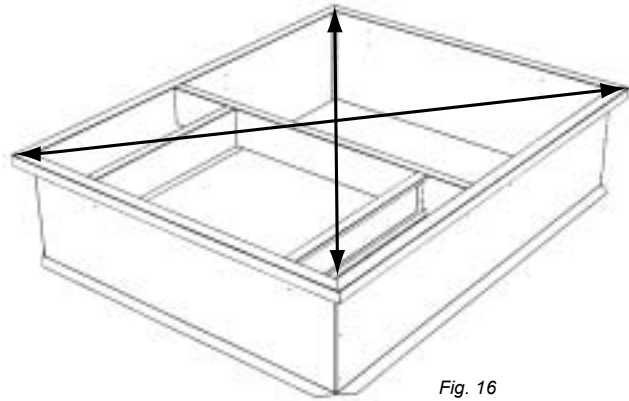

Fig. 16
-Measure frame diagonally from corner to corner as shown in figure 16. These Dimensions must be equal in order for the frame to be square.